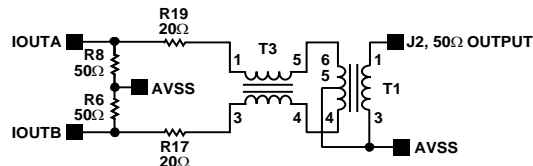

Figure 93. IF Signal Output Circuit
The distortion components should be identical in amplitude and phase at both AD973x outputs. Even though each single-ended output includes a large amount of second-harmonic energy, a careful differential-to-single-ended conversion can remove most of it. Optimum performance at high intermediate frequency (IF) output is obtained with the output circuit shown in Figure 93.